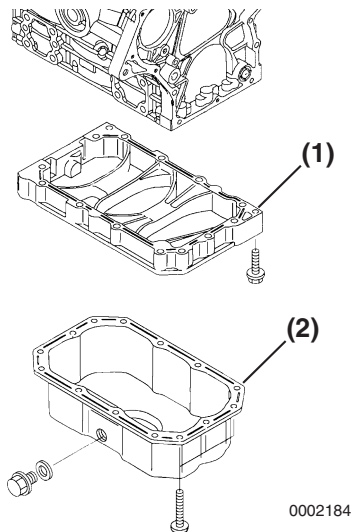

Figure 4-2-101
2. Apply a continuous bead of ThreeBond Liquid Gasket No. 1212, Yanmar Part No. 977770-01212 to the mounting surface of the oil pan (**Figure 4-2-101, (2)**) and crankcase extension (if equipped) (**Figure 4-2-101, (1)**). Be sure to circle each bolt hole.
3. If equipped, reinstall the crankcase extension (**Figure 4-2-101, (1)**). Reinstall the oil pan and tighten the bolts securely.